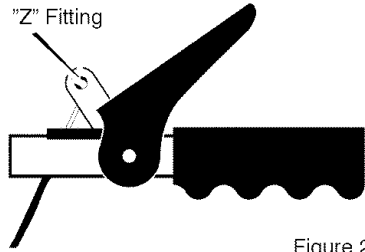

Figure 24
**To check for correct adjustment, unhook "Z" fitting at clutch lever (see Figure 24).**
5. Disconnect the **"Z" fitting** from the **drive lever** (see Figure 24).
11. Install the **"Z" hook** to the **traction drive lever** (see Figure 24).